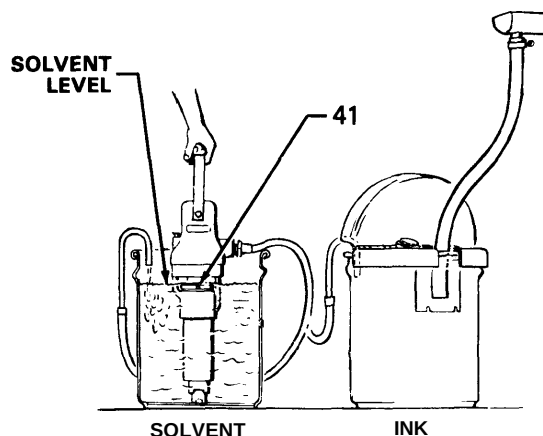

Fig 3
Set the pump upright in an empty solvent pail. Pour solvent into the pail until it is level with the top of the packing nut/wet-cup (41). See Fig 3.